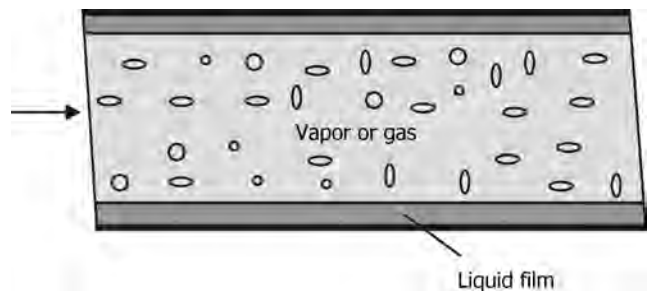

FIGURE 7.2 Annular droplet or mist flows.
- Figure 7.2 illustrates annular droplet flow.